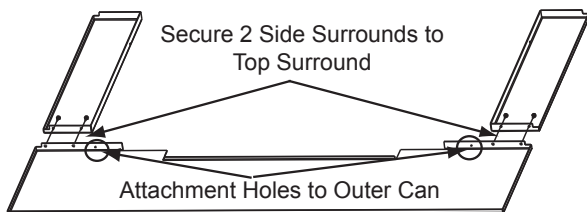

Figure 20.1
2. Using a Phillips head screw driver attach the side surrounds to the top surround using 2 #8 sheet metal screws provided with the kit (**Figure 20.1**).